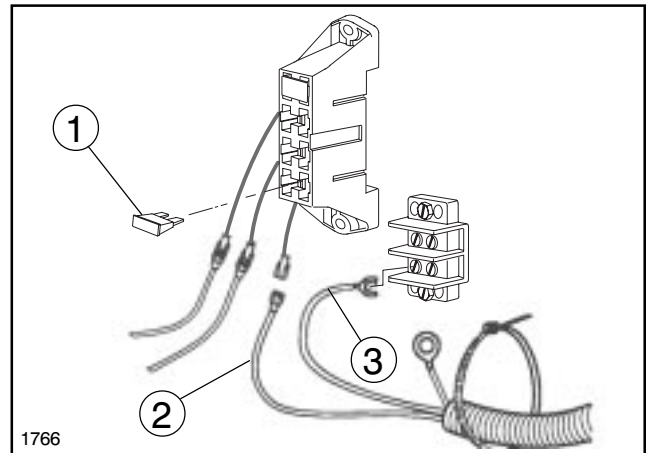

FIG. 16
8. Route Harness to Fuse Block under Operator Seat. Connect power and ground wires as shown in Fig. 16.